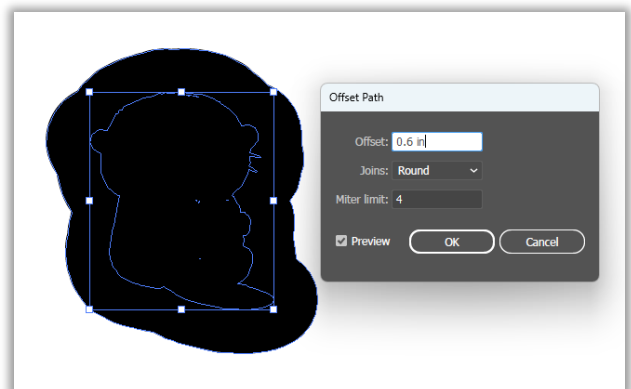

Figure 13: The Offset Path menu and a preview of how expanded the design will become with these Offset Path settings
- e. A little menu should pop up with the following fields (**Figure 13**):